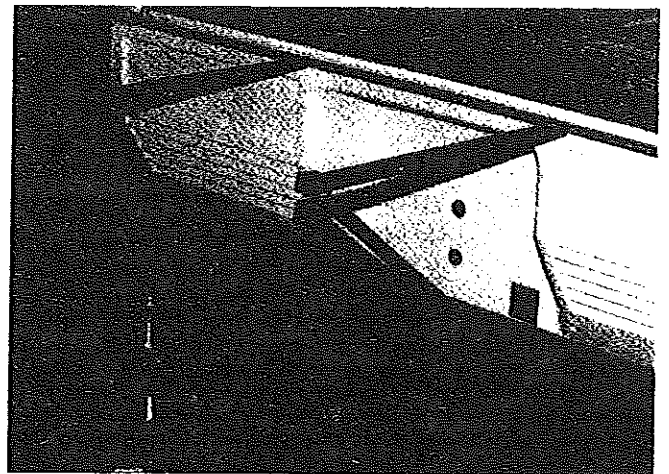

**FIGURE 10**
17. Remove the two portable bed supports from their storage location under the front mattress. See Figure 10. Standing at the front of the trailer, locate the four support holes on the top edge of the front body rail (two holes on each side). Taking the first support, carefully insert the two pins (located at one end of the support) into the two pilot holes located on the top edge of the front body rail. Place the free end of the bed support tube over the support peg located on the trailer frame. See Figures 11 and 12. Repeat the same procedure for the other support.
The portable bed supports may be folded up and stored under each mattress for travel. See Figure 10.